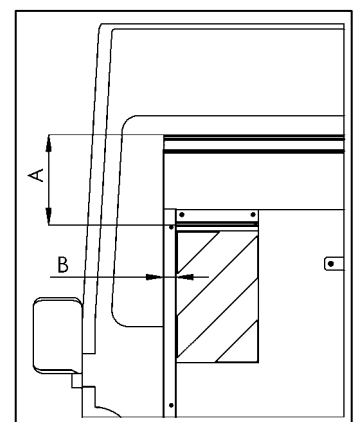
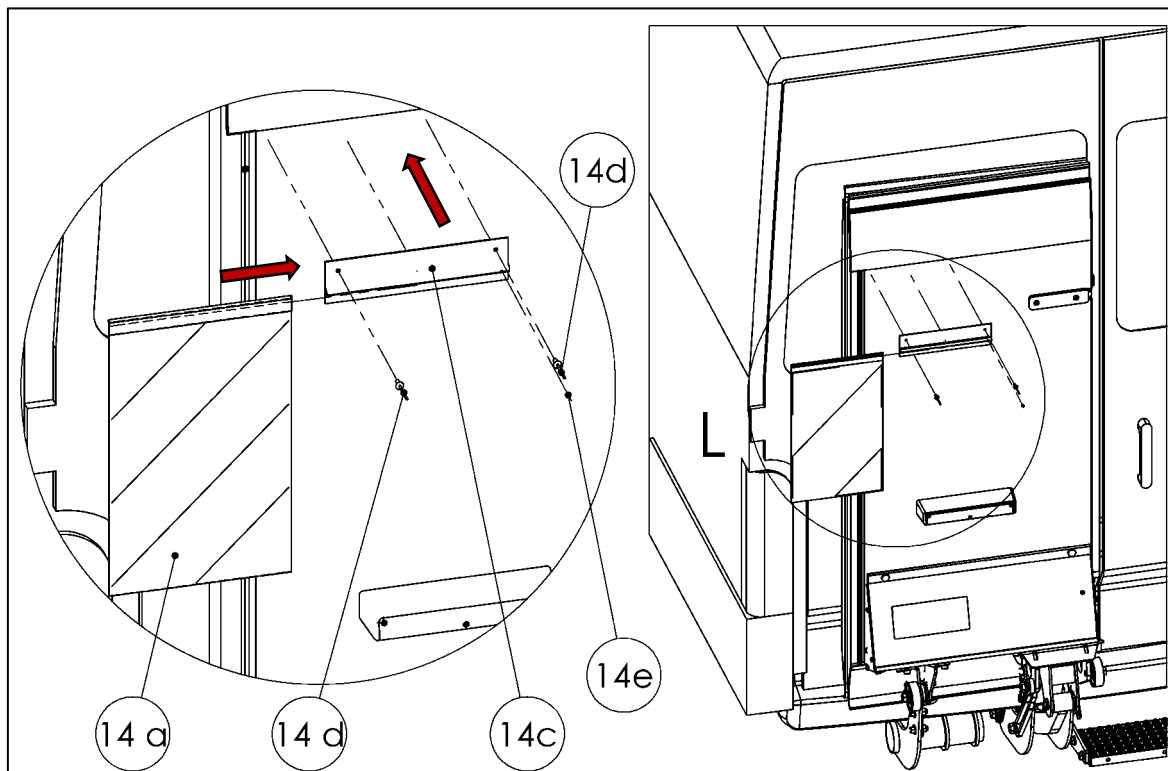
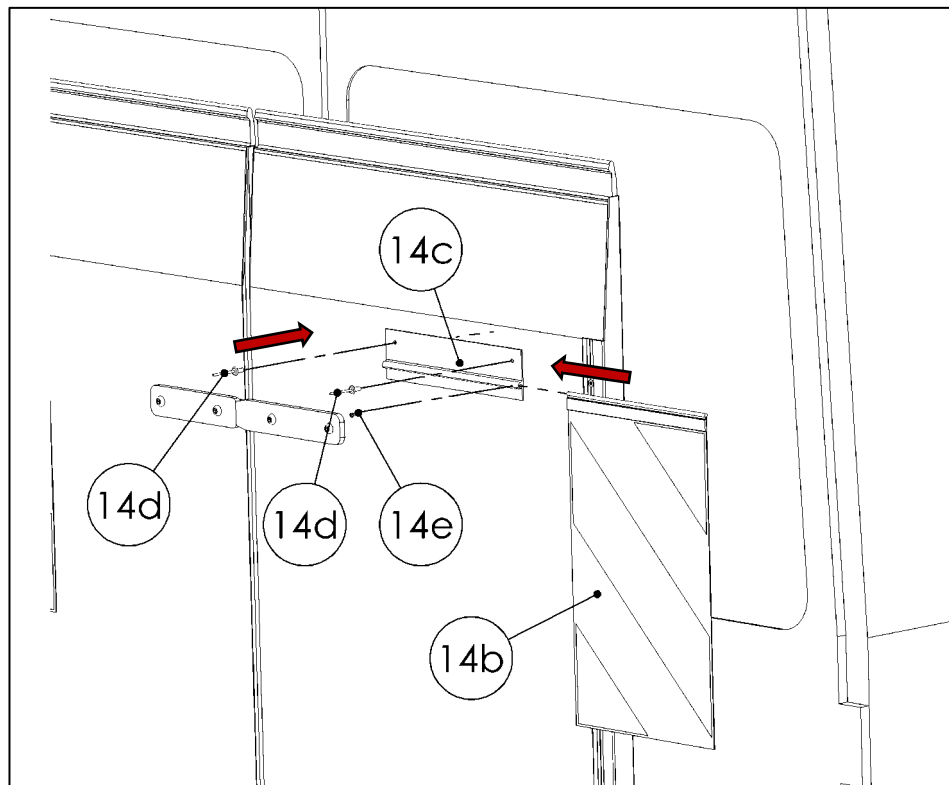

Fig. 66
Fig. 67
Fig. 68
- Remove the warning flag kit (14, Part No. 60 710 330) from the accessories kit and mount it in accordance with the installation instructions below (Fig. 66, Fig. 67, and Fig. 68).
IMPORTANT: Mounting specifications: Comply with these mounting specifications (see Fig. 66):
- IMPORTANT:** Identify the left warning flag (14a) by the angle of the pattern (see Fig. 67)
- IMPORTANT:** Identify right warning flag (14a) by the angle of the pattern (see Fig. 68)